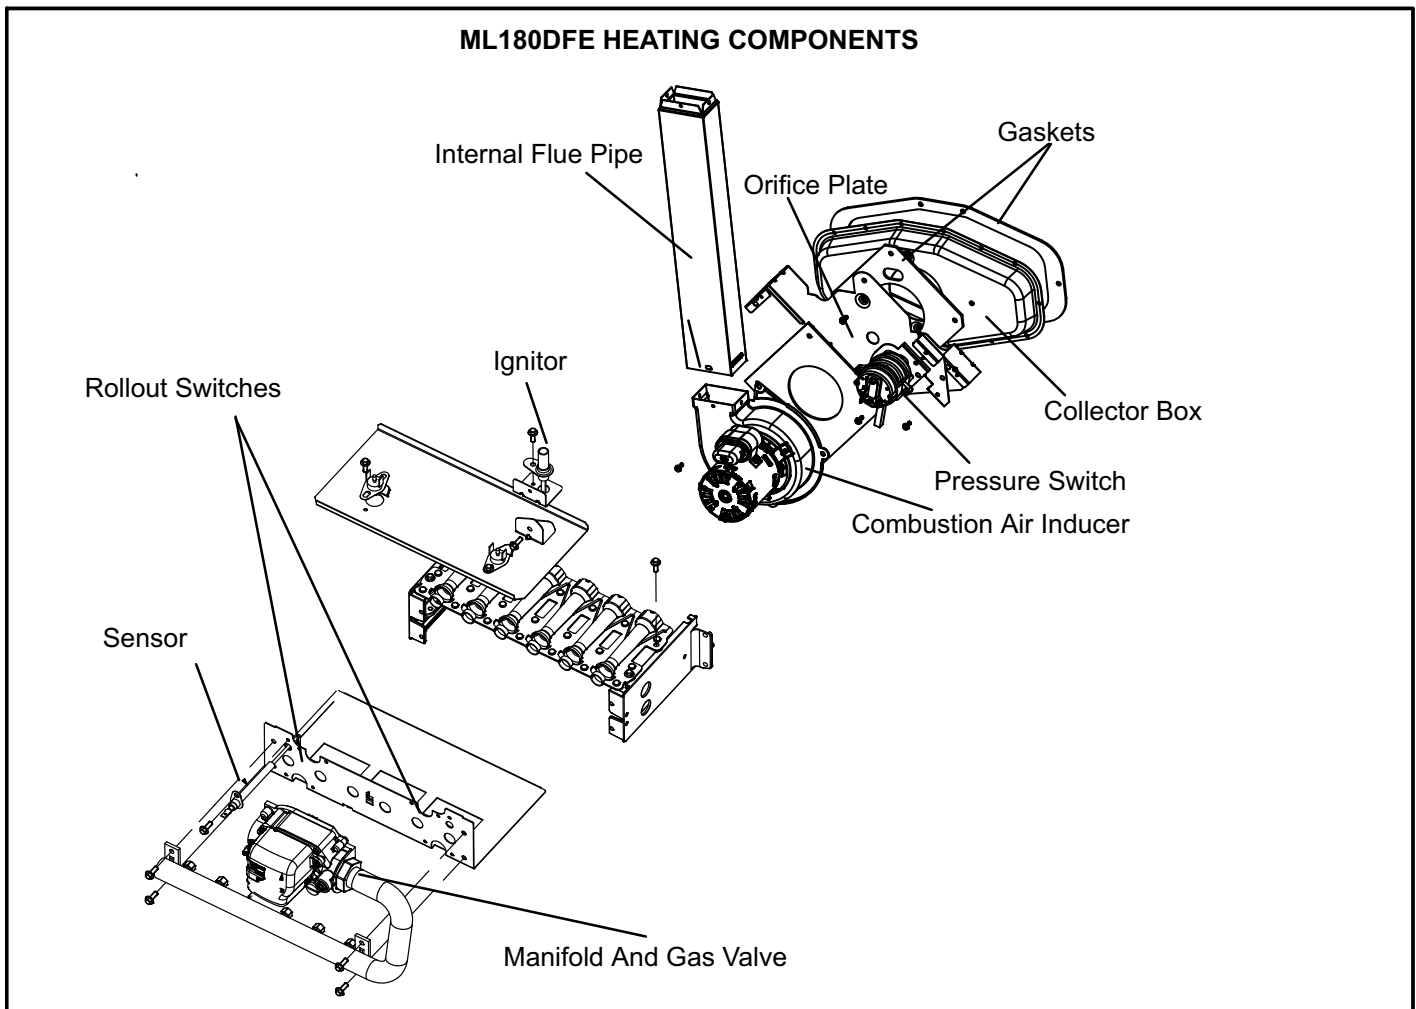

FIGURE 6
5. Flame Rollout Switches (Figure 6)
7. Flame Sensor (Figure 6)
8. Ignitor (Figure 6)
9. Gas Valve (Figure 6)